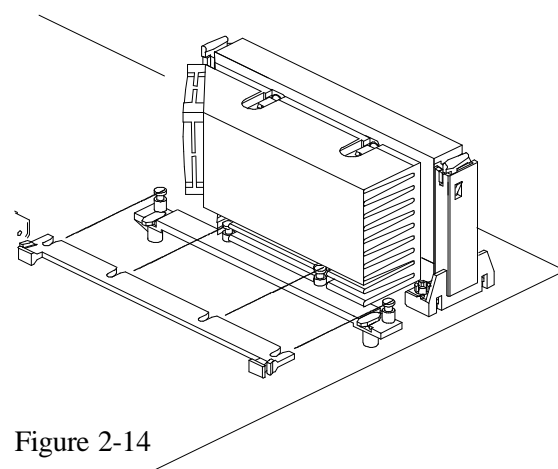

Figure 2-14
4. Insert the Pentium II into the RM firmly (Please refer to "Install Pentium II processor" section), Slide the Heat Sink Top Bar (HSSTOP) on the supports forward to clip onto the HSSBASE through the fins of Heat Sink. (Refer to Figure 2-14)